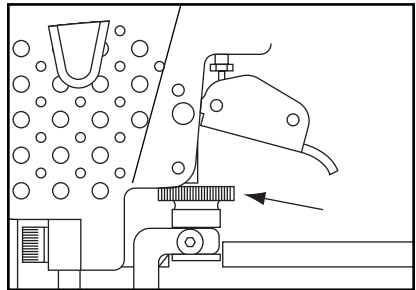

Figure 3. Depth adjustment wheel.
1. Rotate the depth adjustment wheel (shown in **Figure 3**) clockwise to increase the nail/staple driving depth.